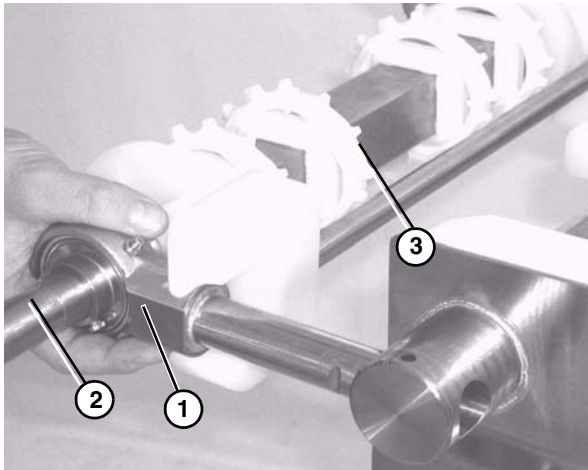

Figure 65
- Slide the drive tail assembly out of the take up blocks (**Figure 65**).
- Slide the motor support bracket (**Figure 65, item 1**) off the drive spindle (**Figure 65, item 2**).
- Remove the sprockets (**Figure 65, item 3**).